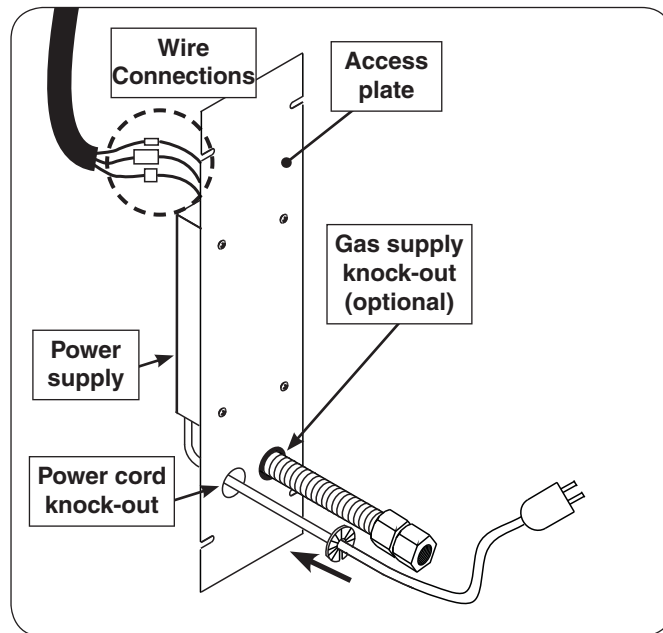

Fig. 11-1 Access plate view & install orientation
A power supply is pre-mounted to the access plate. For ease of installation, disconnect the power supply from the wire harness extension. Locate the three wires coming from the inside of the post to the power supply and carefully disconnect (see Fig. 11-1 and 11-2).
3. Remove the plastic power cord bushing fastened to the inside of the post and install it onto the power cord. Slide the bushing up against the access plate knock-out hole and snap into place. See Fig. 11-1.
2. Remove the plastic grommet fastened to the inside of the post and insert it into the newly created opening. Then route the flex connector through the opening. See Fig. 11-1 and 11-2.